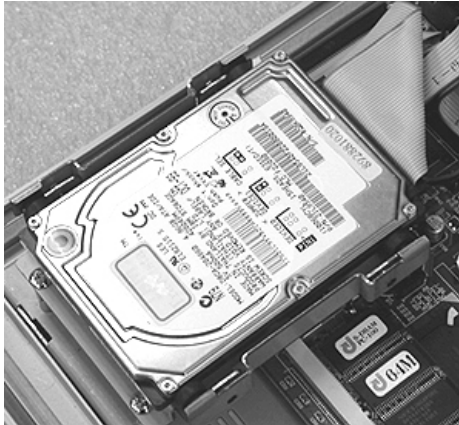

Figure 2-10: Assemble HDD brackets
4. Place the hard disk on the top of the hard disk base. The four rubber screws should fit into the side holes as shown in Figure 2-10.
5. Put the two HDD brackets comes in the accessory box on both sides of the hard disk as shown in Fig 2-10.